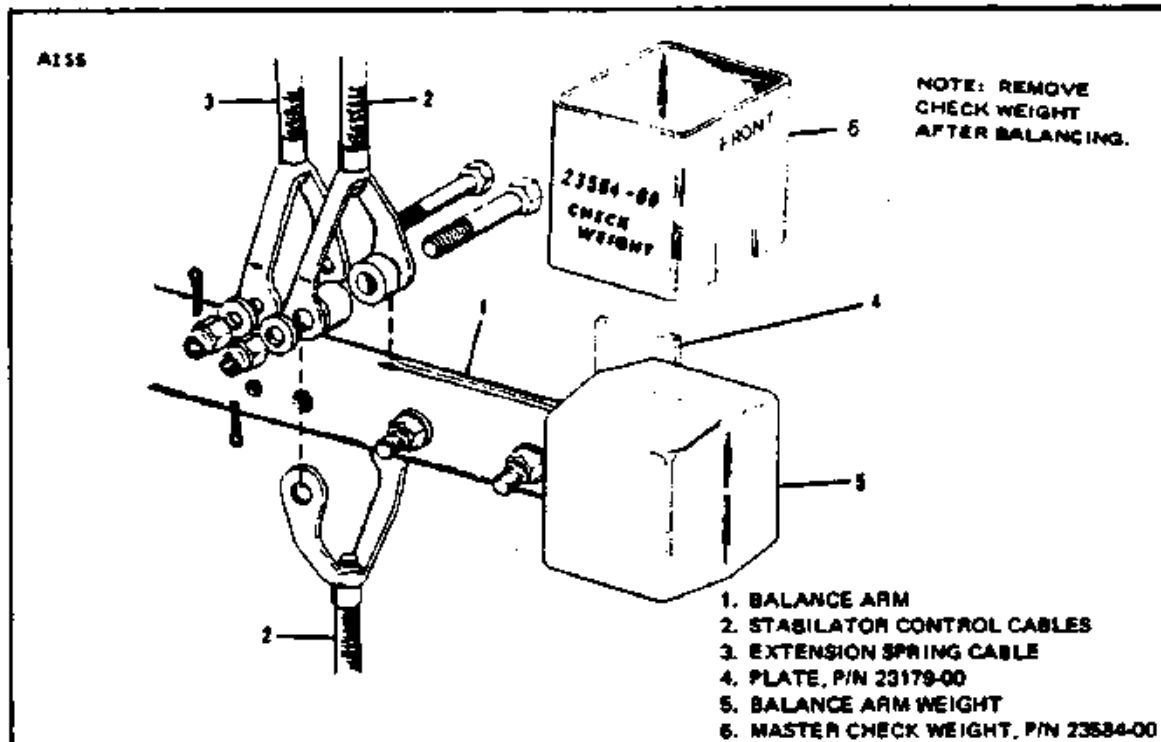

Figure 4-11. Balancing Stabilator, Serial Nos. 30-1 to 30-852 incl.,
4-49. CHECKING AND BALANCING STABILATOR. (Serial Nos. 30-1 to 30-852 inclusive; 30-854 to 30-901 inclusive; 30-1717; 30-1745 to 30-2000 inclusive.) (Refer to Figure 4-11.)
c. Master check weight (6) (P/N 23584-00) (weight 1.58 pounds) should be placed on top of balance weight (5) (P/N 23594-00) with the side marked "FRONT" facing forward. (Refer to Figure 4-11.) If this is not enough weight to obtain static balance with the balance arm level, plates (4) (P/N 23179-00) must be added to the forward balance weight attaching bolt until 100% static balance is obtained or until up to two plates more than that required for balance have been added. Generally, it should not be necessary to use more than eight plates. If a total of more than eight plates is necessary to obtain balance, recheck the procedure in steps "b" and "c".
c. Master check weight (P/N 23584-00) (weight 1.58 pounds) should be placed on top of balance weight (5) (P/N 23594-00) with the side marked "FRONT" facing forward. (Refer to Figure 4-11.) If this is not enough weight to obtain static balance with the balance arm level, plates (4) (P/N 23179-00) must be added to the forward balance weight attachment bolt until 100% static balance is obtained or until up to two plates more than that required for balance have been added. Generally, it should never be necessary to use more than eight plates. If a total of more than eight plates is necessary to obtain balance, recheck the procedure in steps "b" and "c."